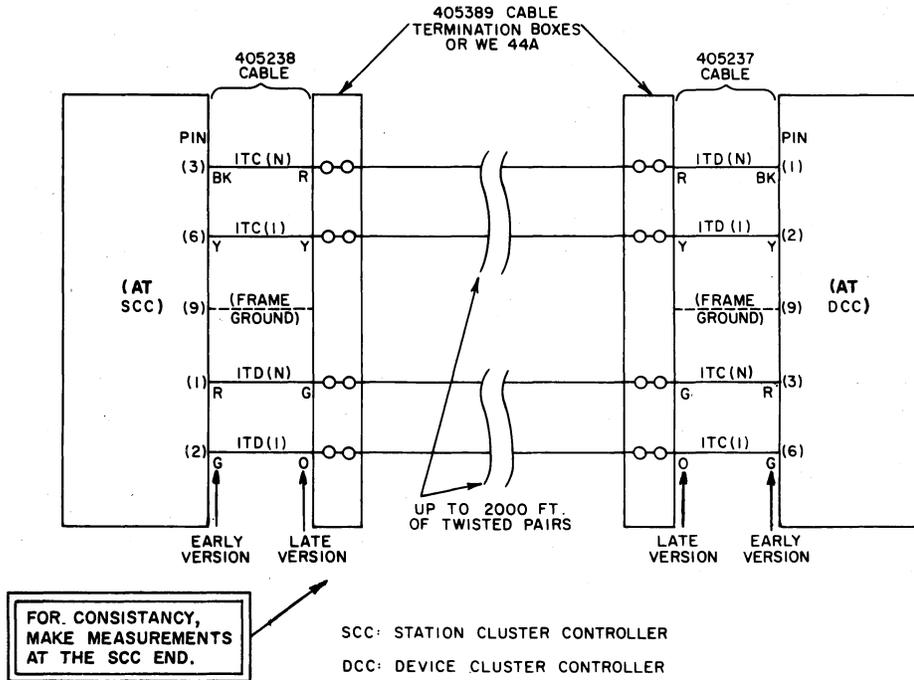

Fig. 8—DC Tests On Cable Pairs Between SCC and DCC
7.05 The Foreign Voltage Tests require a VOM or equivalent. See Fig. 8 or 9 (as applies). Perform the tests in Table A.
7.06 The Insulation Resistance Tests require a VOM or equivalent. See Fig. 8 or 9 (as applies) for test arrangement. Perform the tests in Table B.
7.07 The Loop Resistance Tests require a VOM and a jumper. See Fig. 8 or 9 (as applies) for test arrangement. Perform the tests in Table C (check the range setting on the VOM).